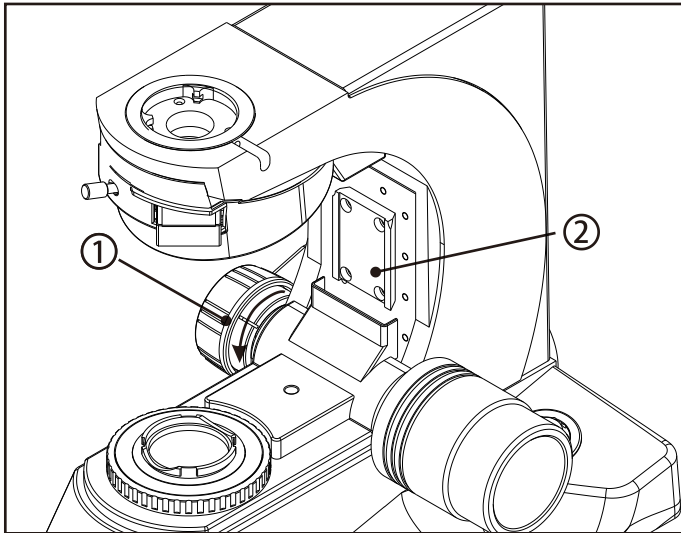
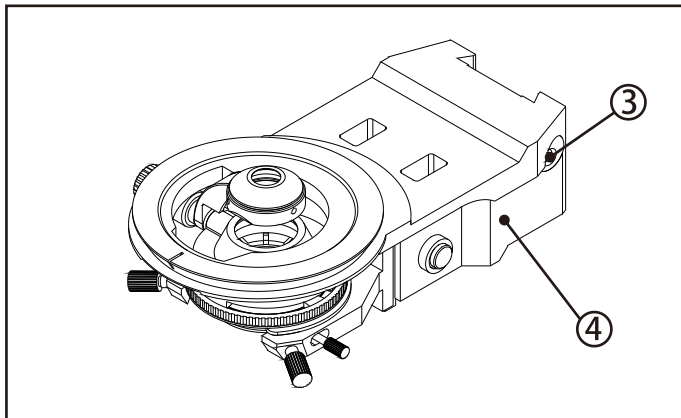
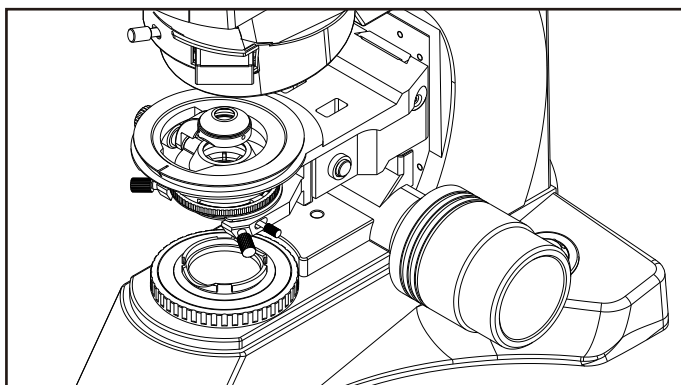
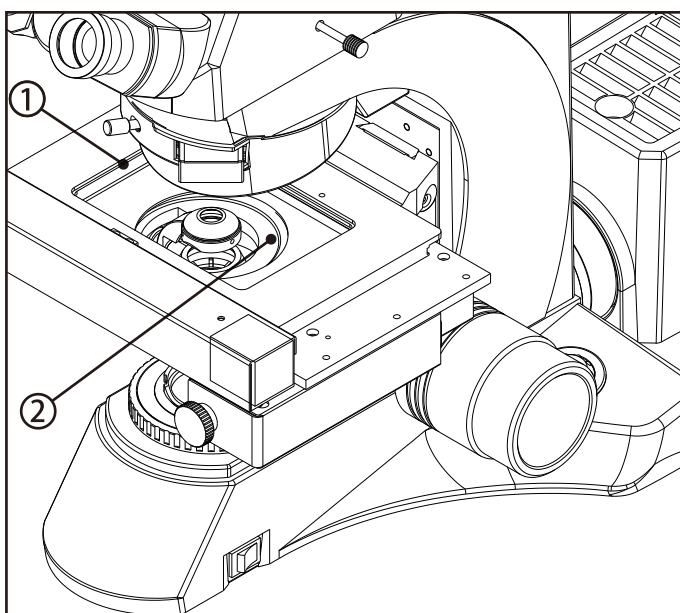

fig. 1
fig. 2
fig. 3
fig. 8
Before installing the device, be sure to adjust the coarse focus knob. ① Make the guide board ② (see figure 1) down to the limit position, so you can install the stage support device easily.
Hold on the stage support device (figure 2), place it from the top of the guide board (figure 1), let the device (figure 2) falling free until it reach the limit position. Use the hexagon wrench to screw down the screw and locking block ③, make the stage support device (figure 1) and the guide board fixed together. (see figure 3)
Adjust the coarse focus knob. Make the stage support device (see figure 2) down to the lowest position, so you can install the lead screw platform ① easily.
Hold on the lead screw platform ① (figure 8), place it from the top of the Stage Support Device (figure 2). push the lead screw platform gently until it reaches the limit position with Keeping the stage support device (figure 2) in level. Use the hexagon wrench screw down the fixed bolt ②, make the lead screw platform and the stage support device fixed together (see Figure 8).